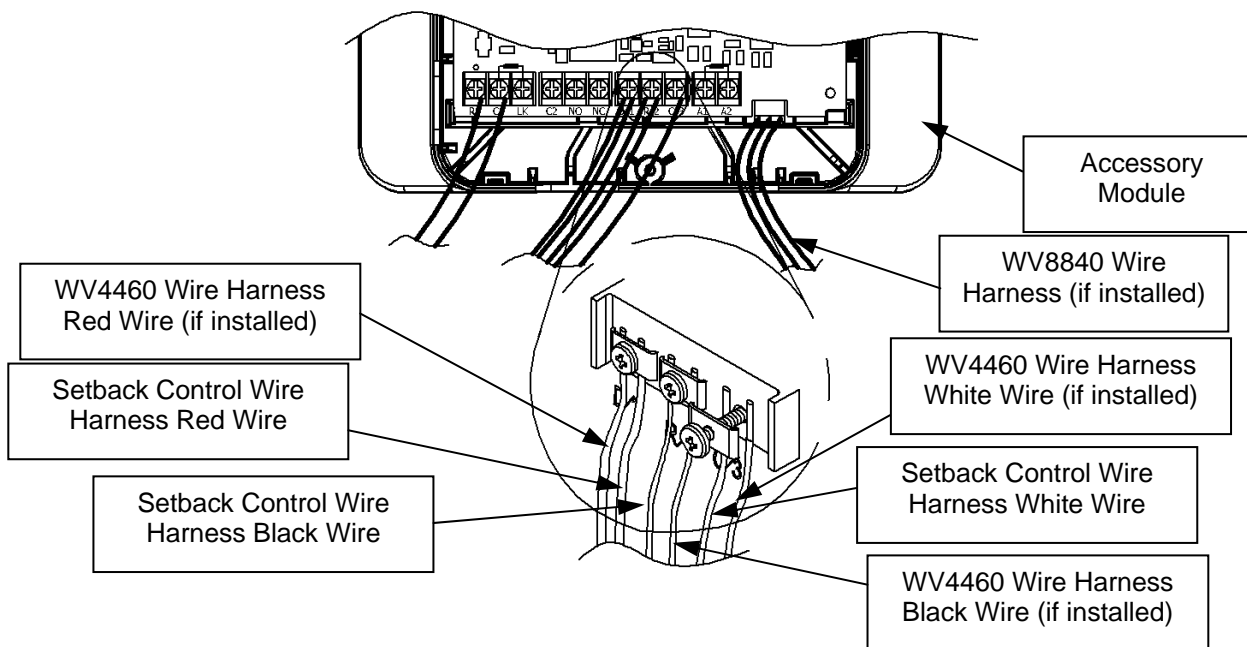

Figure 49
Step 22: Insert the white wire, from the Setback Control wire harness, under the screw labeled "C/3." If the water heater has a WV4460 gas control, the gas control wire harness white wire must be retained underneath this screw also. This is shown in Figure 49.